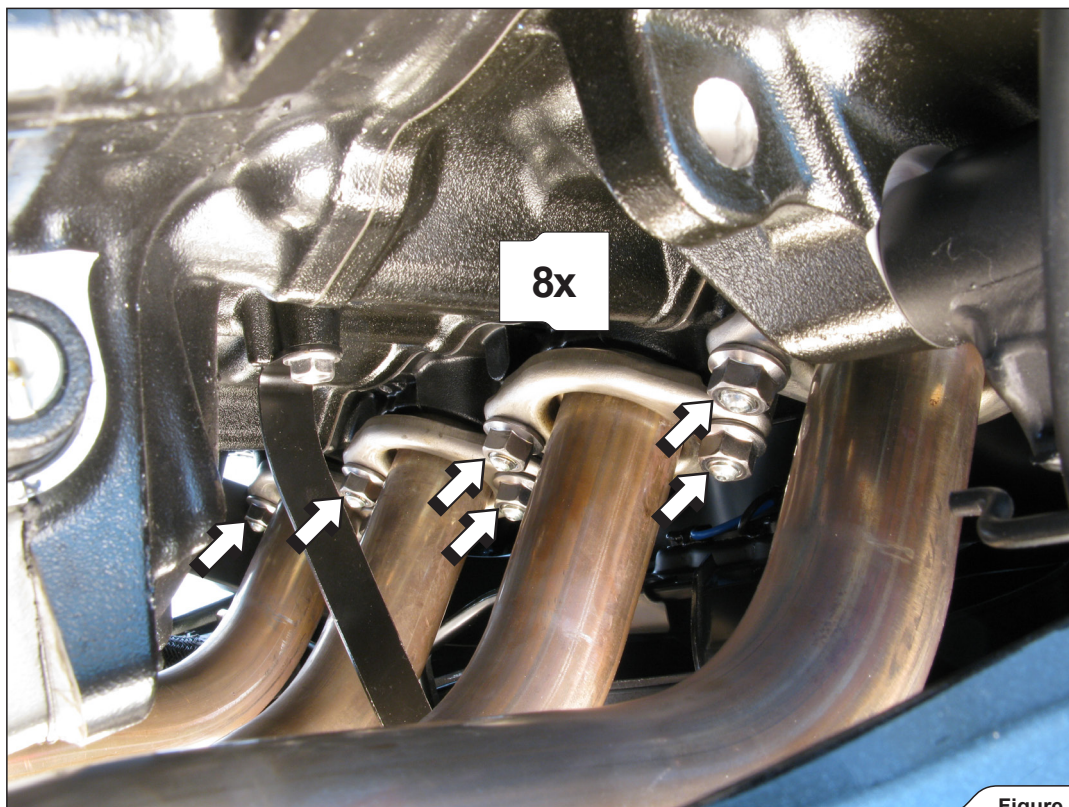

Figure 5
6. Unscrew all flange nuts (**Figure 5**).